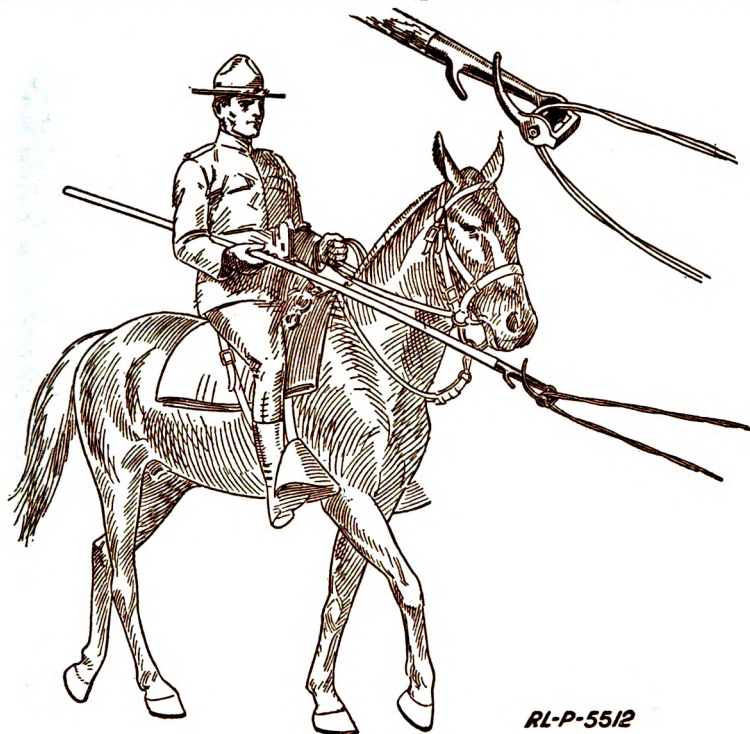

Fig. 27.—Riding the loop with a pike
5. To guide the wire from the side of the road with a pike preparatory to picking up, precede the cart, and, with the wire running through the pike, guide the wire from the side of the road into the clear, thus disengaging it from bushes, etc. To "ride the loop" (Fig. 27), follow the cart with the pike in the loop and with the
16. *Pikeman No. 1.*—Follow the cart and ride the loop in the wire which is being recovered and keep the pike in the loop. Keep sufficient tension on the wire to cause it to be wound on the reel tightly. (Fig. 27.) Keep the loop a sufficient distance from the cart by calling to the wagoner, when necessary, "CLUTCH" or "RELEASE CLUTCH." Also give the commands "STOP" and "FORWARD" when necessary.